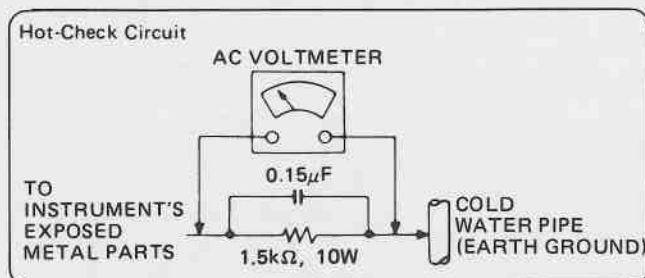

Fig. 10
LEAKAGE CURRENT HOT CHECK (See Fig. 10)
2. Connect a 1.5 k Ω , 10 watt resistor, in parallel with a 0.15 μ F capacitor, between each exposed metallic part on the set and a good earth ground such as a water pipe, as shown in Fig. 10.